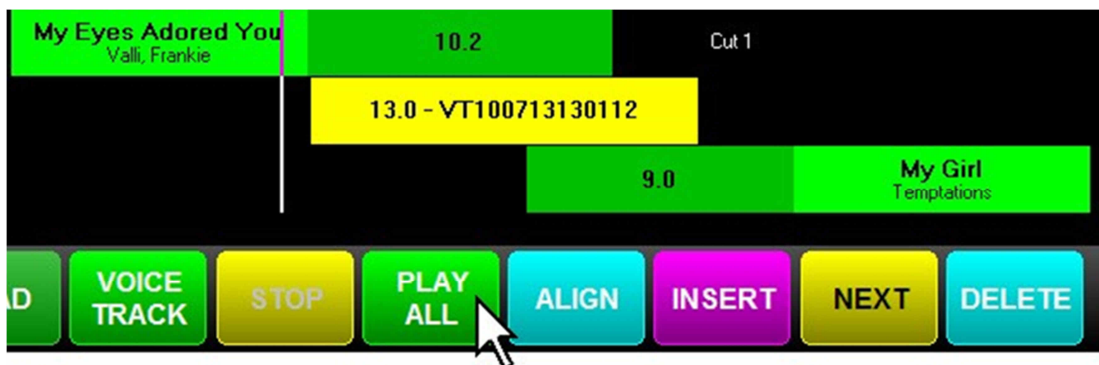

Figure 6-22. Clicking the Play All Button
1. Click the **Play All** button (see Figure 6-22).